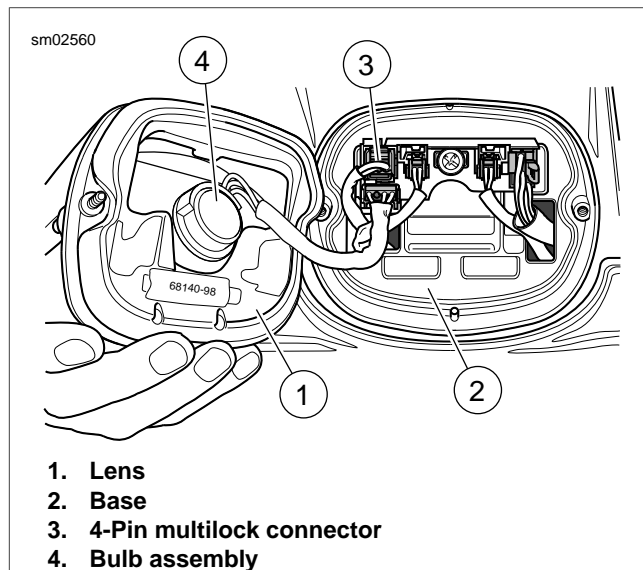

Figure 7-27. Tail Lamp: FXD, FXDC, FXDL
1. See Figure 7-27. Make certain ignition switch is turned off.
1. See Figure 7-27. Remove two screws and lens from base.